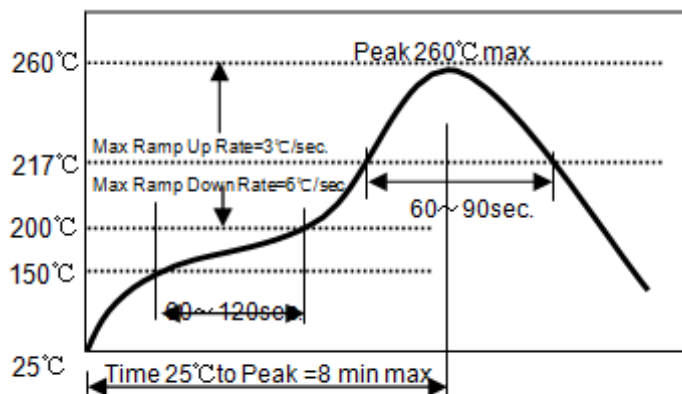

Fig. 1-1
- Please refer to **Fig. 1-1**.